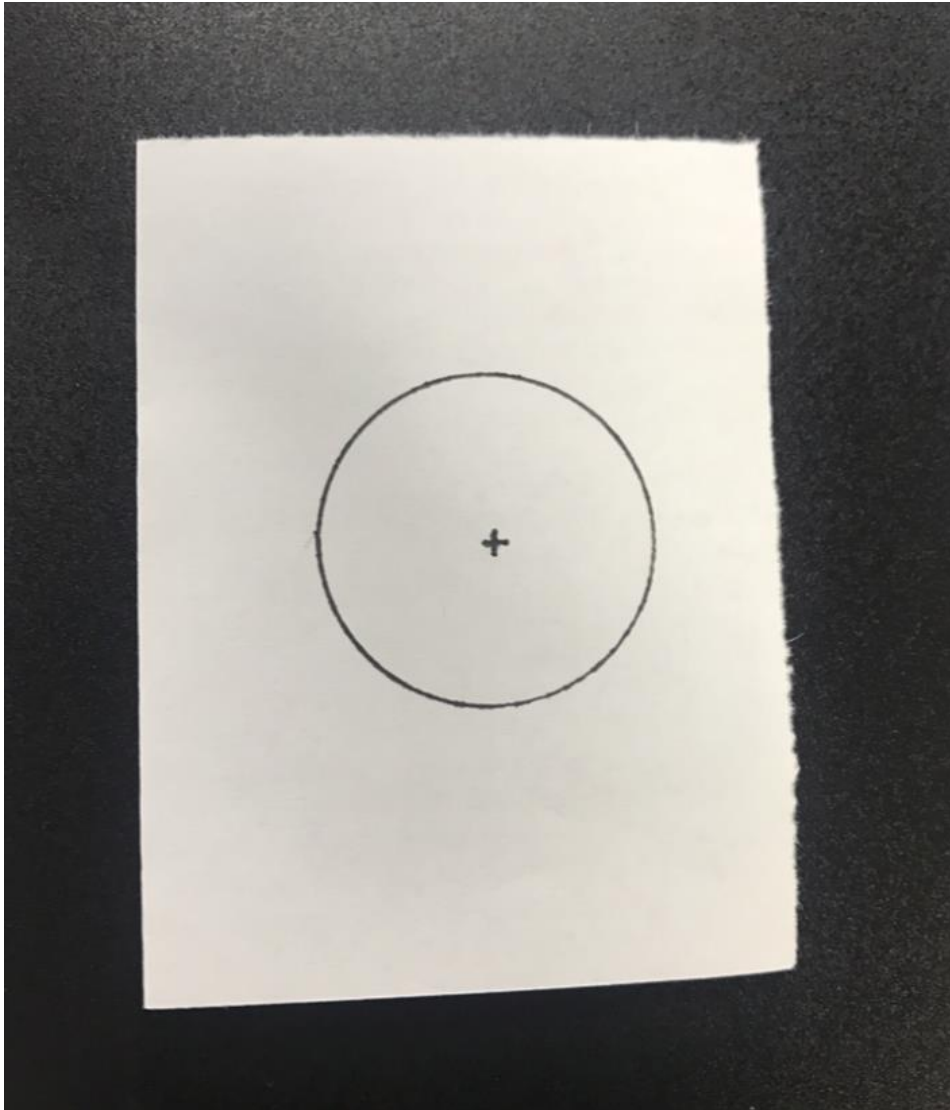

Figure 5.5 Put down a label on the conveyor
**Step 1** Put down a label on the conveyor, as shown in Figure 5.5.